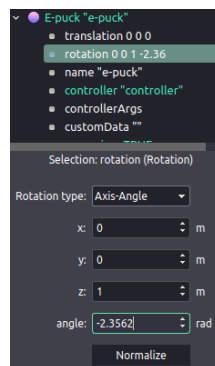

Figure 5: How to adjust the heading of the robot
7.5 S (1 pts): Set the robot's heading to `-2.3562` rad and start the simulation as in Fig.5. Report the plot of the resulting trajectory by running **Part A** of `plot_main.m`. Does the odometry with the accelerometer work as intended?